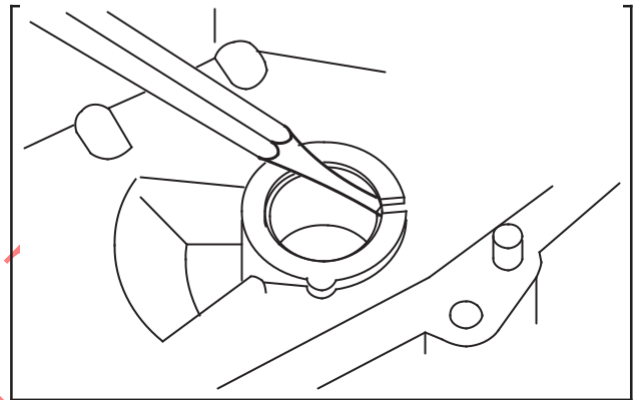

Fig. 8 – Stake Bearing
4. Stake bearing from both sides with 1/4" round punch to prevent bearing from turning, Fig. 8.